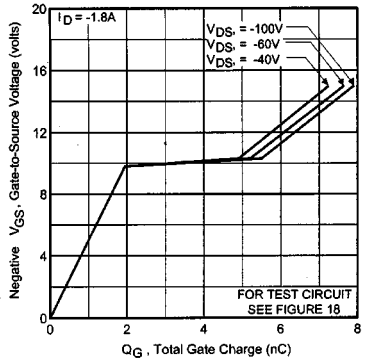

Fig. 11 — Typical Gate Charge Vs. Gate-to-Source Voltage
- ① Repetitive rating; pulse width limited by max. junction temperature (See Figure 11)
- ② Not Applicable
- ③ I_{SD}≤-1.8A, di/dt≤70A/μs, V_{DD}≤V_{(BR)DSS}, T_J≤150°C
- ④ Pulse width ≤ 300 μs; duty cycle ≤2%.